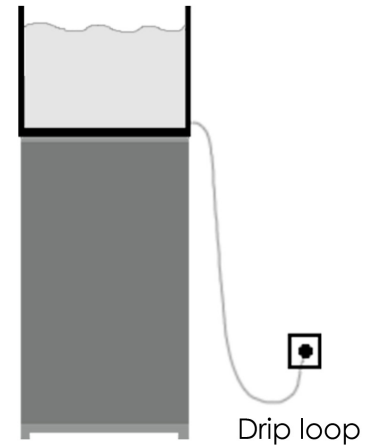

Fig. 1
b. To avoid the possibility of the appliance plug or receptacle getting wet, position the aquarium stand and tank to one side of a wall mounted receptacle to prevent water from dripping onto the receptacle or plug. You should create a “drip loop” (see Figure 1) for each cord connecting an aquarium appliance to a receptacle. The “drip loop” is that part of the cord below the level of the receptacle, or the connector. Use an extension cord, if necessary, to prevent water traveling along the cord and coming into contact with the receptacle. If the plug or receptacle does get wet, DO NOT unplug the cord. Disconnect the fuse or circuit breaker that supplies power to the appliance. Then unplug the device and examine for presence of water in the receptacle.